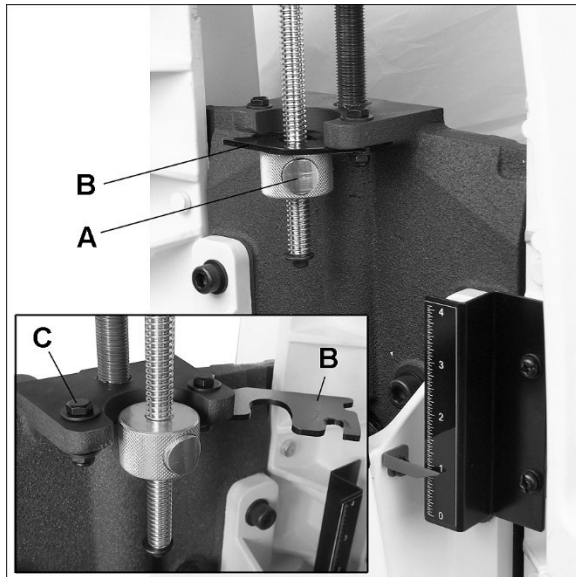

Figure 8-1
1. Rotate handle to position drum at *final* sanding depth according to scale. (Figure 8-1 shows 7/8-inch final depth as example).
2. Press button on stop nut to slide nut into general position, then rotate nut until it firmly contacts bottom of plate (B).